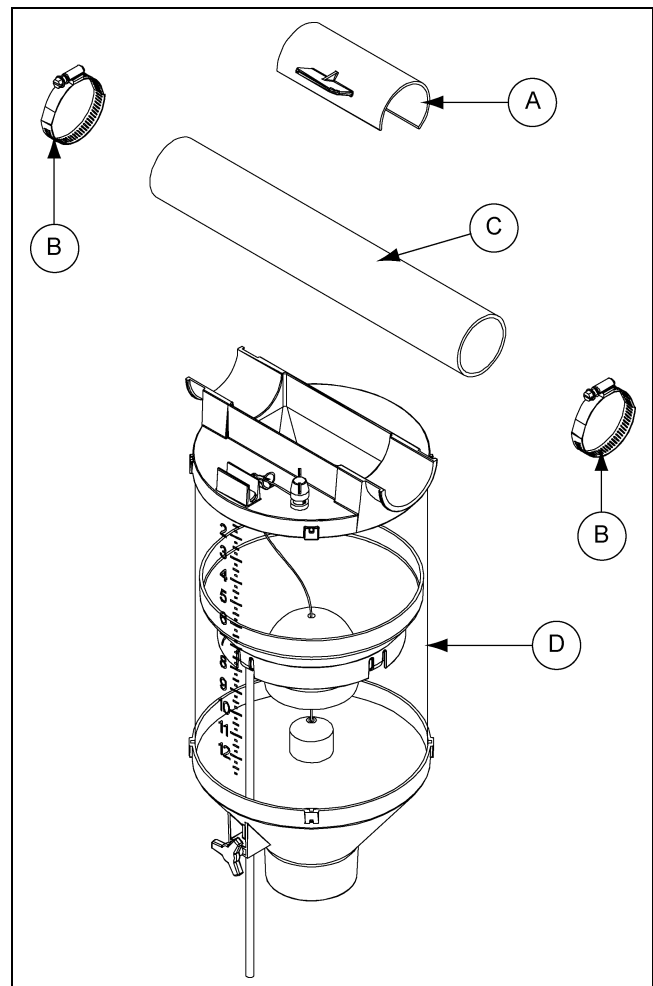

Figure 3J Accu-Drop Installation
2. Hold the Accu-Drop up next to the tubing, making sure the hole in the tubing is in the center of the Accu-Drop. *(See Figure 3J.)* Slide the hose clamps into the groove on each side of the top of the Accu-Drop and tighten.